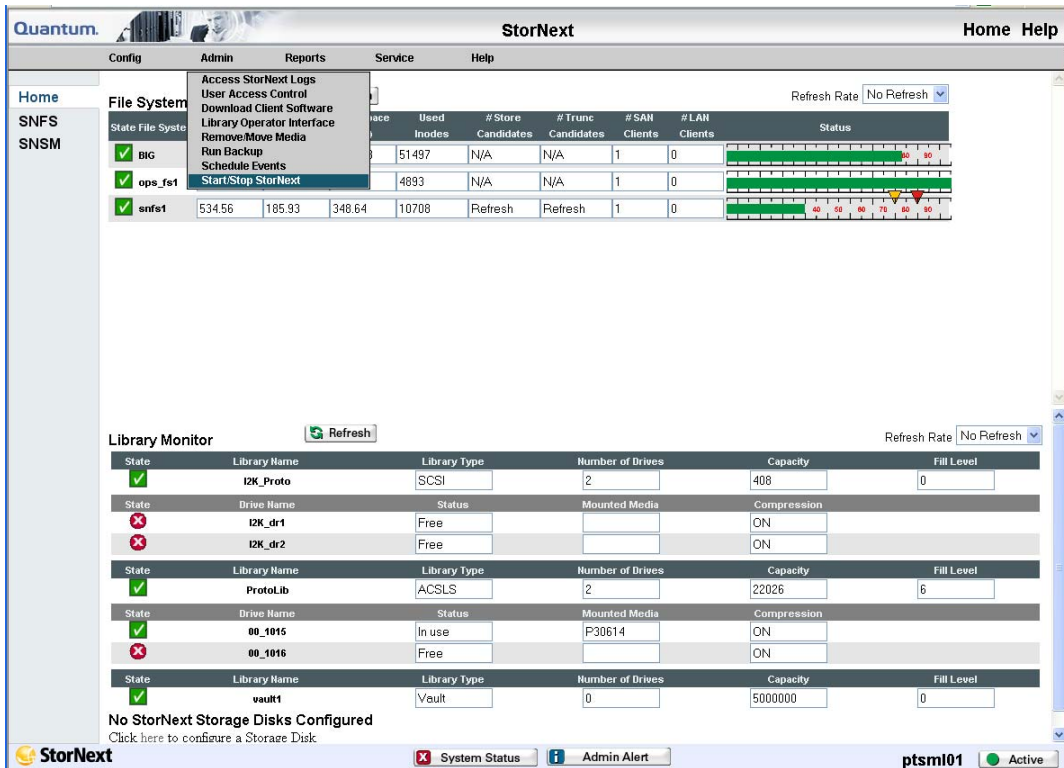

Figure 14.4-2. Admin Pull-Down Menu
- The **Admin** pull-down menu will be displayed (Figure 14.4-2).